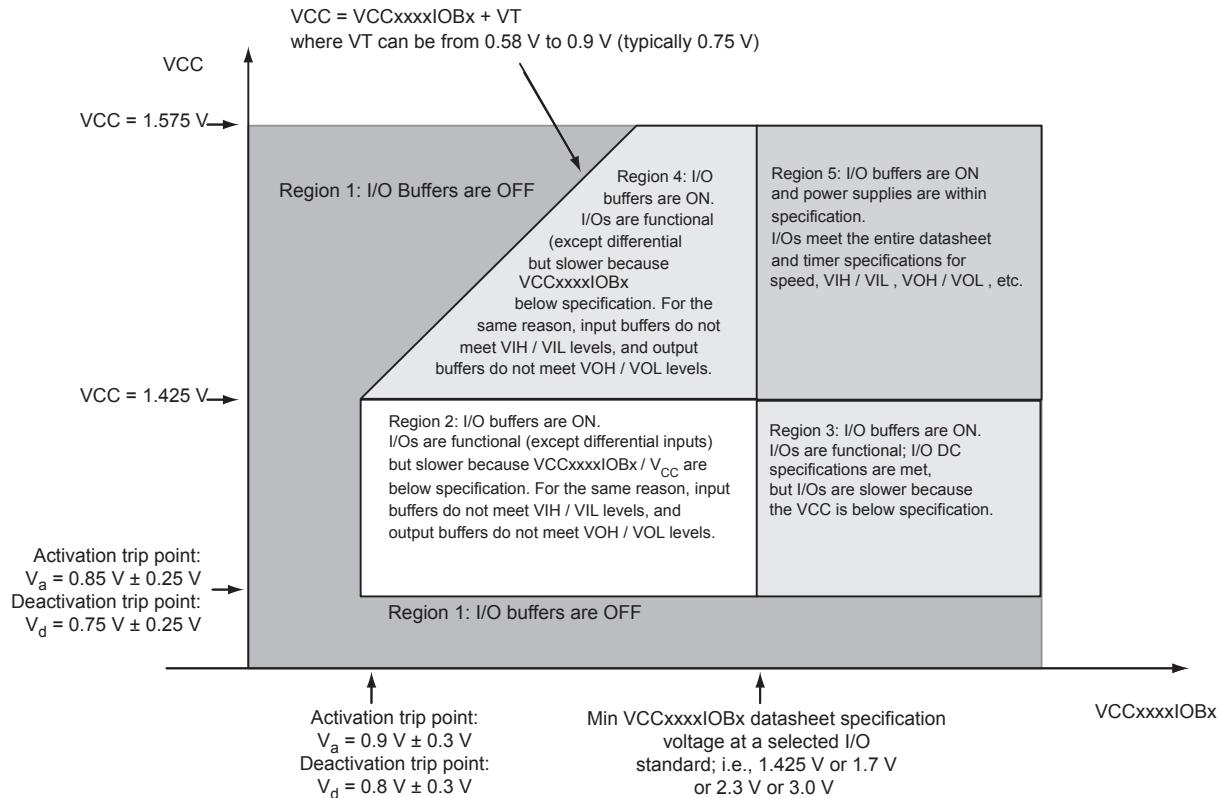

Figure 2-1 • I/O State as a Function of VCCxxxxIOBx and VCC Voltage Levels
Sophisticated power-up management circuitry is designed into every SmartFusion® device. These circuits ensure easy transition from the powered-off state to the powered-up state of the device. The many different supplies can power up in any sequence with minimized current spikes or surges. In addition, the I/O will be in a known state through the power-up sequence. The basic principle is shown in Figure 2-1 on page 2-6.
1. VCC and VCCxxxxIOBx are above the minimum specified trip points (Figure 2-1 on page 2-6).
The Microsemi SoC Products Group recommends using monotonic power supplies or voltage regulators to ensure proper power-up behavior. Power ramp-up should be monotonic at least until VCC and VCCPLLx exceed brownout activation levels. The VCC activation level is specified as 1.1 V worst-case (see Figure 2-1 on page 2-6 for more details).